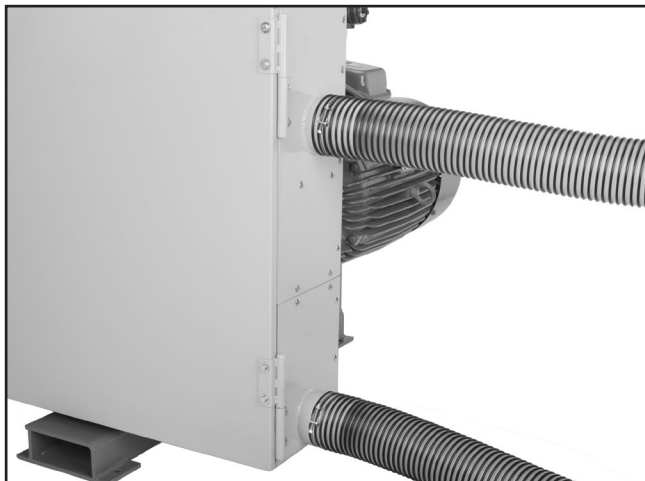

Figure 18. Dust hoses connected to dust ports.
1. Attach a 4" dust hose to all three dust ports as shown in **Figure 18**, and be sure to tighten the hose clamp to ensure a snug fit.